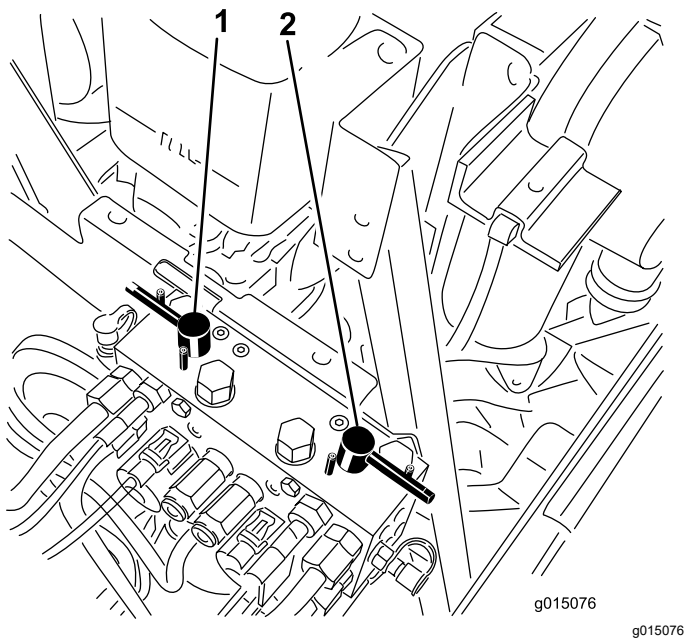

Figure 99
4. Select either front, rear or both backlap levers to determine which units to backlap (Figure 99).